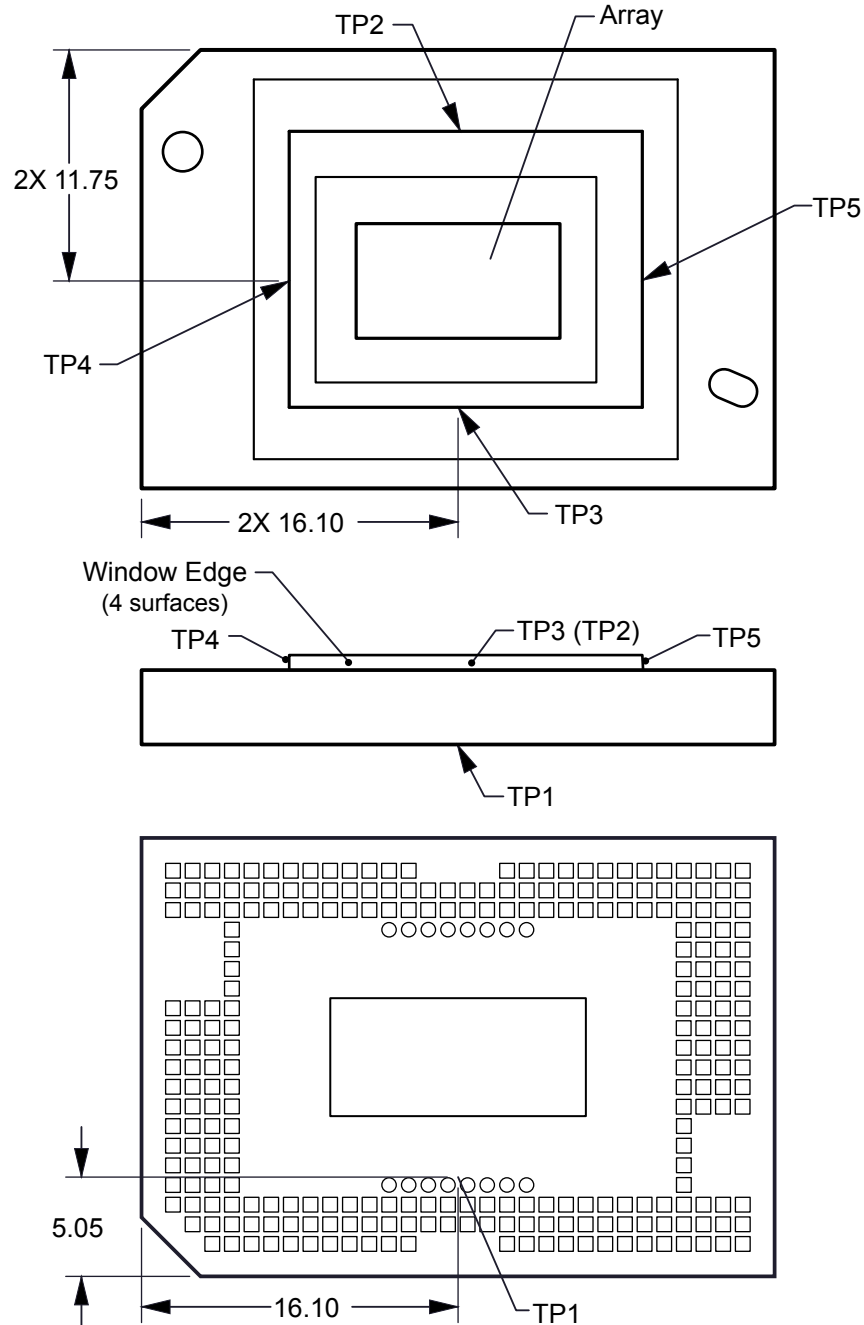

图 6-1. DMD Thermal Test Points
Micromirror array temperature cannot be measured directly, therefore it must be computed analytically from measurement points on the outside of the package, the package thermal resistance, the electrical power, and the illumination heat load. The following equations show the relationship between array temperature and the reference ceramic temperature, thermal test TP1 图 6-1 shown above:
- $T_{\text{CERAMIC}}$  = Measured ceramic temperature ( $^{\circ}\text{C}$ ), TP1 图 6-1
- $R_{\text{ARRAY-TO-CERAMIC}}$  = Thermal resistance of package specified in 节 5.5 from array to ceramic TP1 图 6-1 ( $^{\circ}\text{C}/\text{W}$ ).
- $Q_{\text{ARRAY}}$  = Total DMD Power (electrical + absorbed) on array (W).
- $Q_{\text{ELECTRICAL}}$  = Nominal electrical power (W)
- $Q_{\text{INCIDENT}}$  = Incident illumination optical power (W)
- $Q_{\text{ILLUMINATION}}$  = (DMD average thermal absorptivity  $\times$   $Q_{\text{INCIDENT}}$ ) (W)